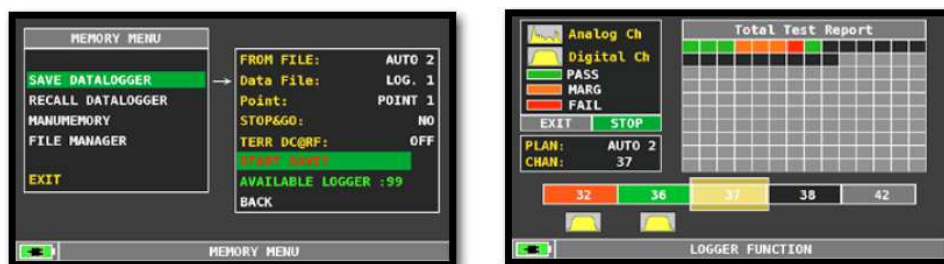

Fig.5 Logger in progress with the corresponding measurements results. At the end of the logger the meter
- **CONTINUOUS**: this makes the logger run without end, looping though the programmes in the CHN file until it is not manually stopped. This allows continuous testing on a set of memorized programmes while making changes to the distribution parameters until the proper results are not obtained (all green squares! Ref. fig. 5).
**RED = FAIL, AMBER = MARGINAL, GREEN = PASS.** Ref. Fig. 5.